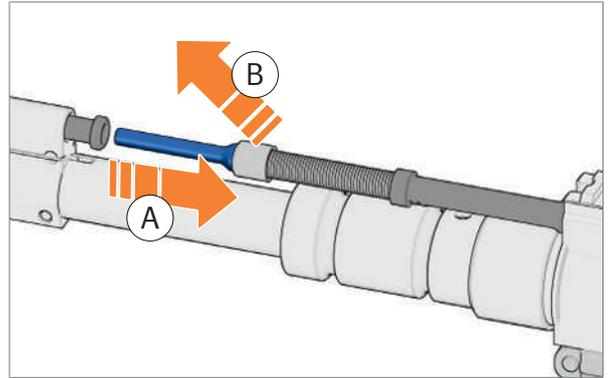

Fig. 98: Remove rod
2. Pull rod back and hold it (*Fig. 98*).
3. Pull rod upwards and forwards out of upper receiver (*Fig. 98*).